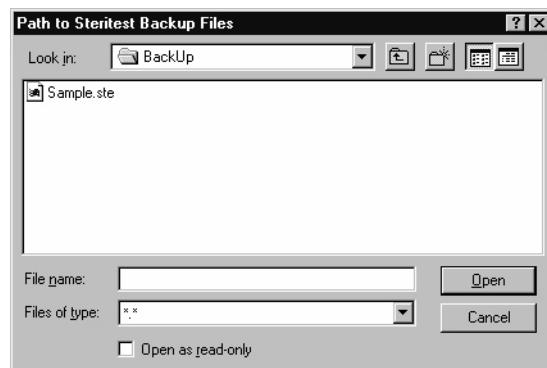

Figure 37: Select Path to Backup Files
3. Enter the path in the **Path to Steritest Backup Files** field or click the [. . .] button to open the browse window and select the path (Figure 37).